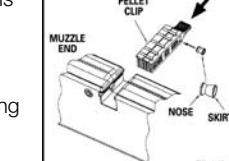

Fig. 8
- Place a pellet (nose first), in each of the five pellet chambers (Fig. 8). IMPORTANT: To avoid jams or deforming pellets, make sure each pellet skirt is level or slightly below the rim of the pellet chamber.